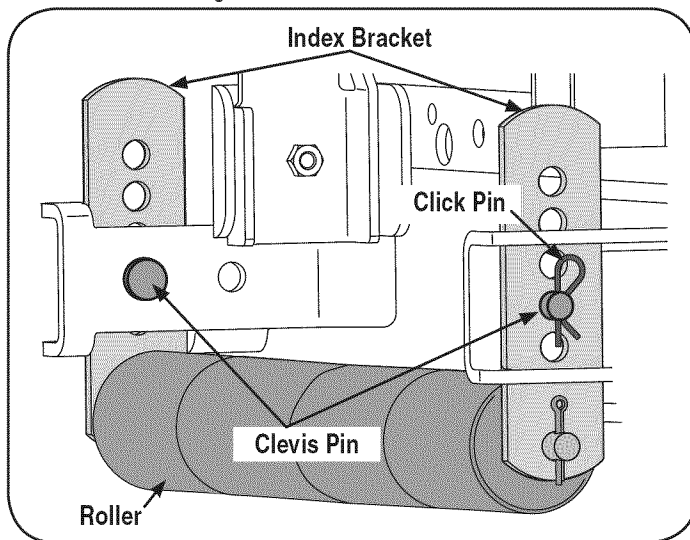

Figure 25
1. While supporting the roller assembly, remove click pin and withdraw the clevis pin from both the left and right roller index brackets. See Figure 25.
3. Align the nearest index bracket holes with the holes in the deck mounting brackets. Insert the clevis pins through the deck brackets and the index brackets and secure with the click pins. See Figure 25.